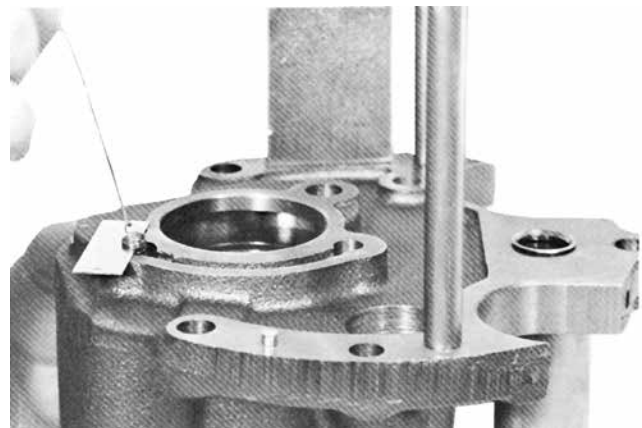

Figure 30. Pulling out trip piston spring
2. Insert the trip piston in its cylinder. Pull the spring out as shown in Figure 30 and insert a thin plate to hold it. Secure the ball, check valve seat, and o-ring gasket to the spring by inserting the pin, but be sure the small steel ball is also retained by the pin.